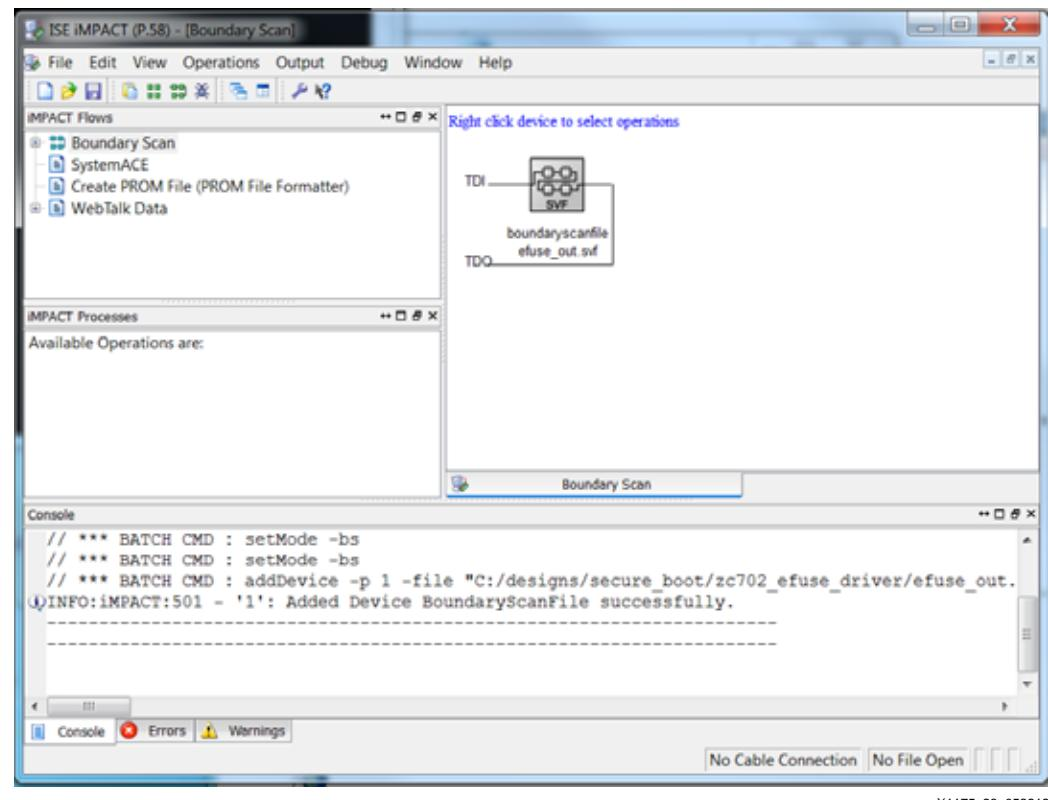

Figure 51: Adding efuse_out.svf
1. Invoke iMPACT, initialize the chain, and select **Add Xilinx device**. As shown in Figure 51, add `efuse_out.svf` to the scan chain.